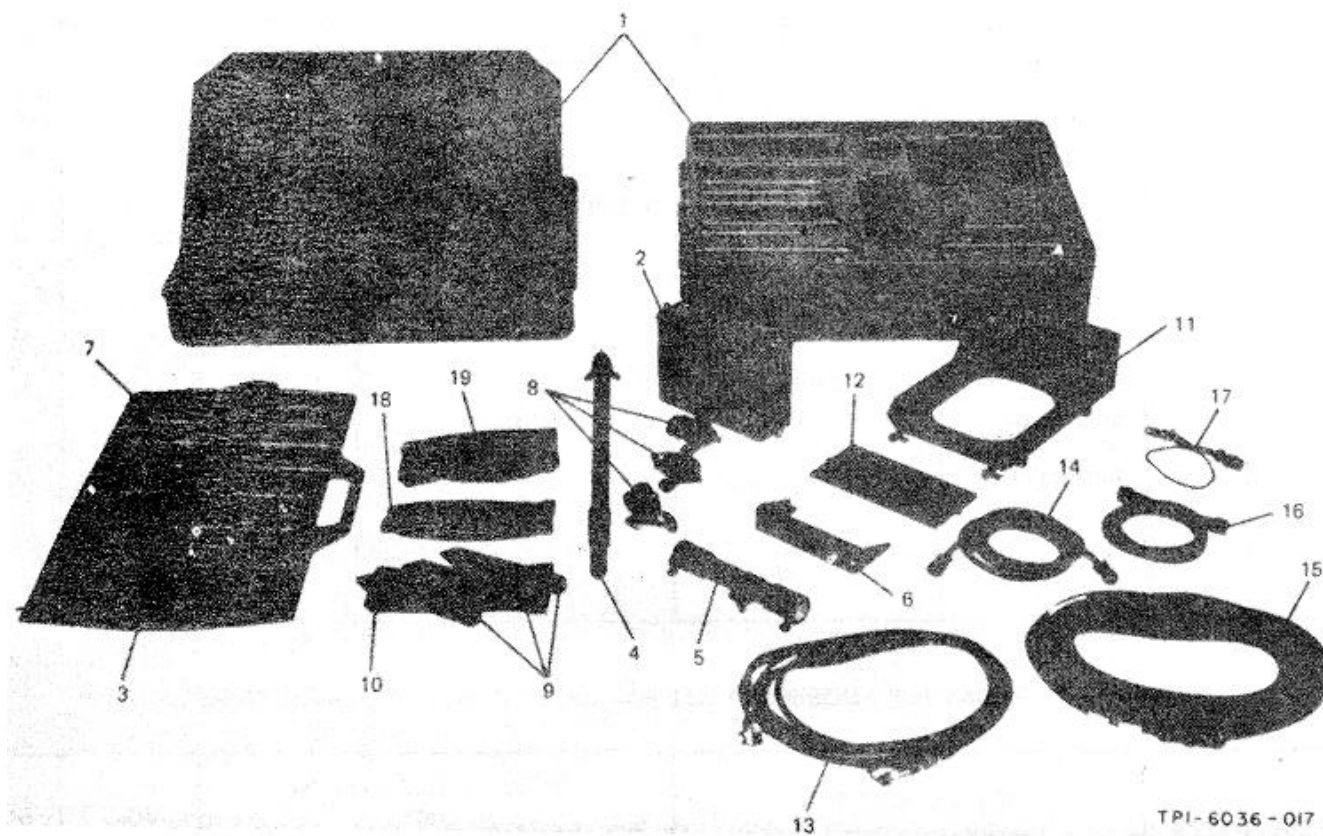

Figure 1-3. Radio Set Accessory Kit MK-706/PRC-41, Accessory Contents of
Set Accessory Kit MK-706/PRC-41 consists of Electronic Equipment Case CY-3885/PRC-41 and its contents (figure 1-3). The following paragraphs of this subsection provide physical, electrical, and functional descriptions of Radio Set Case CY-3883/PRC-41, Electronic Equipment Case CY-3885/ PRC-41, and their contents.
(8) SPECIAL PURPOSE ELECTRICAL CABLE ASSEMBLY CX-10831/PRC-41A. (Refer to figure 1-3.) - The CX-10831/PRC-41A is a 2-foot length of 7-conductor cable with suitable mating connectors. It is used to connect Radio Receiver Transmitter RT-695A/PRC-41 to the TSEC/KY-38 security equipment.
(1) ELECTRONIC EQUIPMENT CASE CY-3885/PRC-41. -Electronic Equipment Case CY-3885/ PRC-41 is an aluminum transit case with a compartmentalized molded foam rubber insert. The case is used for storage of accessories of Radio Set AN/PRC-41A. The contents of Electronic Equipment Case CY-3885/PRC-41 permit operation of the AN/PRC-41A equipment in a fixed station or vehicular configuration and provide extender cables and tools required for equipment maintenance. The case measures 15-1/2 by 35 by 26-1/2 inches and weighs 45 pounds (figure 1-3)